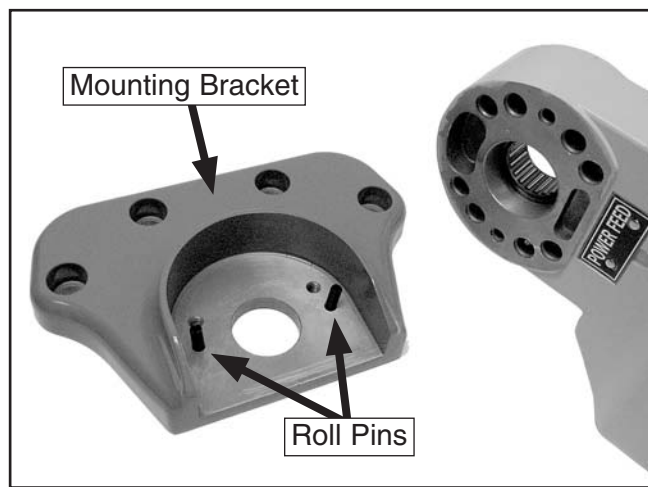

Figure 6. Mounting bracket.
1. Use the roll pins and cap screws to install the power feed unit onto the mounting bracket (see **Figure 6**).